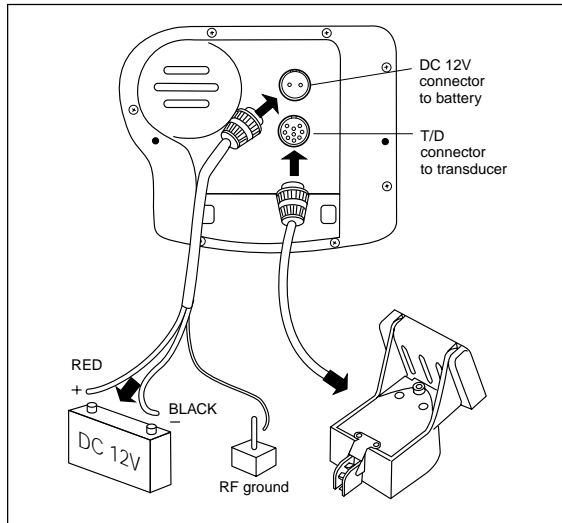

Fig. 2-17
3. It is very important that you connect the power leads correctly. See Fig. 2-17. At the power source, connect the **red** wire to the **positive**